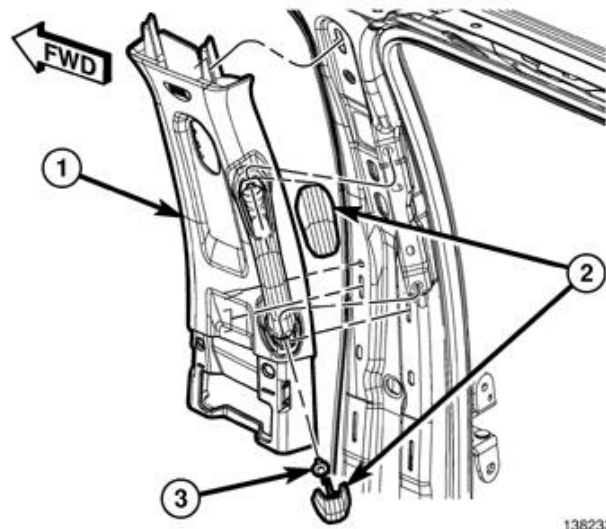

Figure 20 – B-Pillar Upper Trim Panel
- On the B-pillar, use a small flat-bladed tool to carefully open the two fastener covers (2) located on the grab handle (Figure 20).
- Using a trim stick C-4755 or equivalent, release the retaining clips that secure the B-pillar upper trim panel (1) then position the trim panel out of the way. It is not necessary to remove the seat belt from the trim panel (Figure 20).
51. Install the B-pillar upper trim panel (1) and engage the retaining clips fully (Figure 20).
52. Install the grab handle bolts (3) and tighten to 5 N·m (44 in. lbs.). Close the fastener covers (2) (Figure 20).